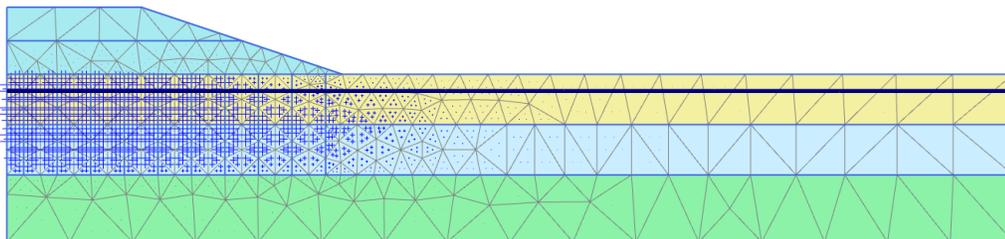

Figure 120: Excess pore pressures after undrained construction of embankment
2. Click the **Center principal directions** button . The principal directions of excess pressures are displayed at the center of each soil element. The results are displayed in Figure 120 (on page 139).